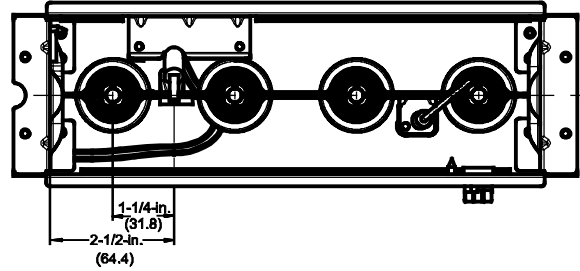

Fig. 67 - Igniter Position - Top View
- Check the igniter alignment. See Fig. 67, 68 and 66.
The igniter does **NOT** require annual inspection. Check igniter resistance before removal. Refer to Fig. 67, 68 and 66.